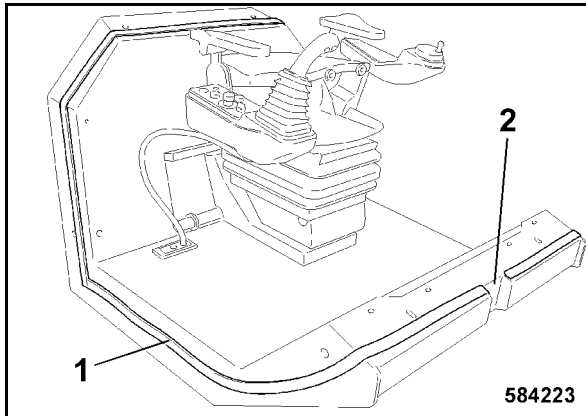

Fig. 205
- Stick the sealing tape 1 (Fig. 205) all around the operator's stand.
- Do not run the sealing tape across the front recess in the operator's stand (2), since this is the air inlet for the cabin ventilation.